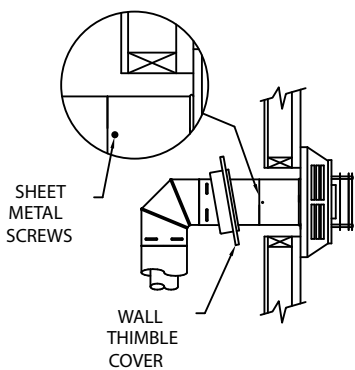

Figure 8
**(Fig. 8).**
**Step 6.** Slide the appliance and vent assembly towards the wall, carefully inserting the Pipe Section into the cap assembly. It is important that the Pipe Section extends into the back of the Termination Cap with a minimum overlap of 1-1/4 inches. Use the two sheet metal screws provided to secure the Pipe Section to the back of the Termination Cap. The Wall Thimble Cover will cover the screw heads **(Fig. 8)**.